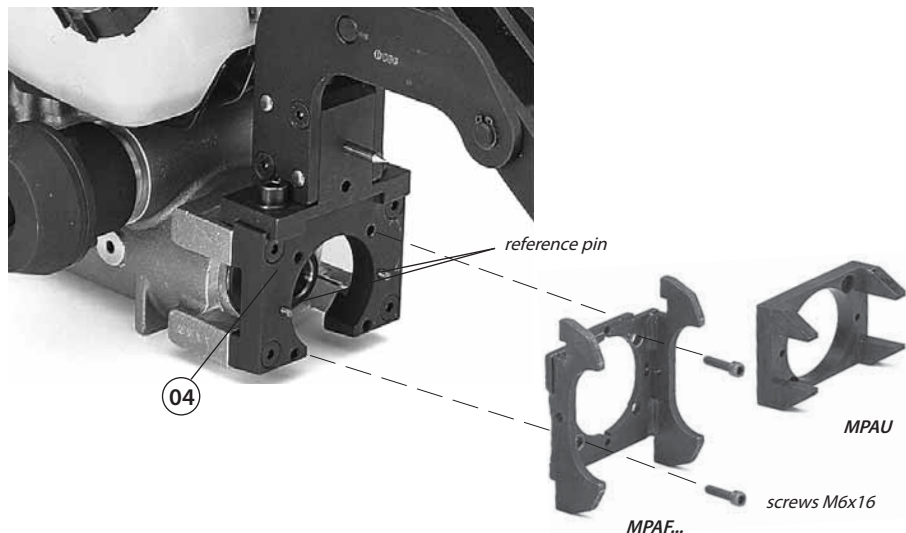

FIG. 15 – ASSEMBLY OF THE POSITIONING TEMPLATES
7.3) Assembly of the positioning templates (Ref. to Fig. 15)